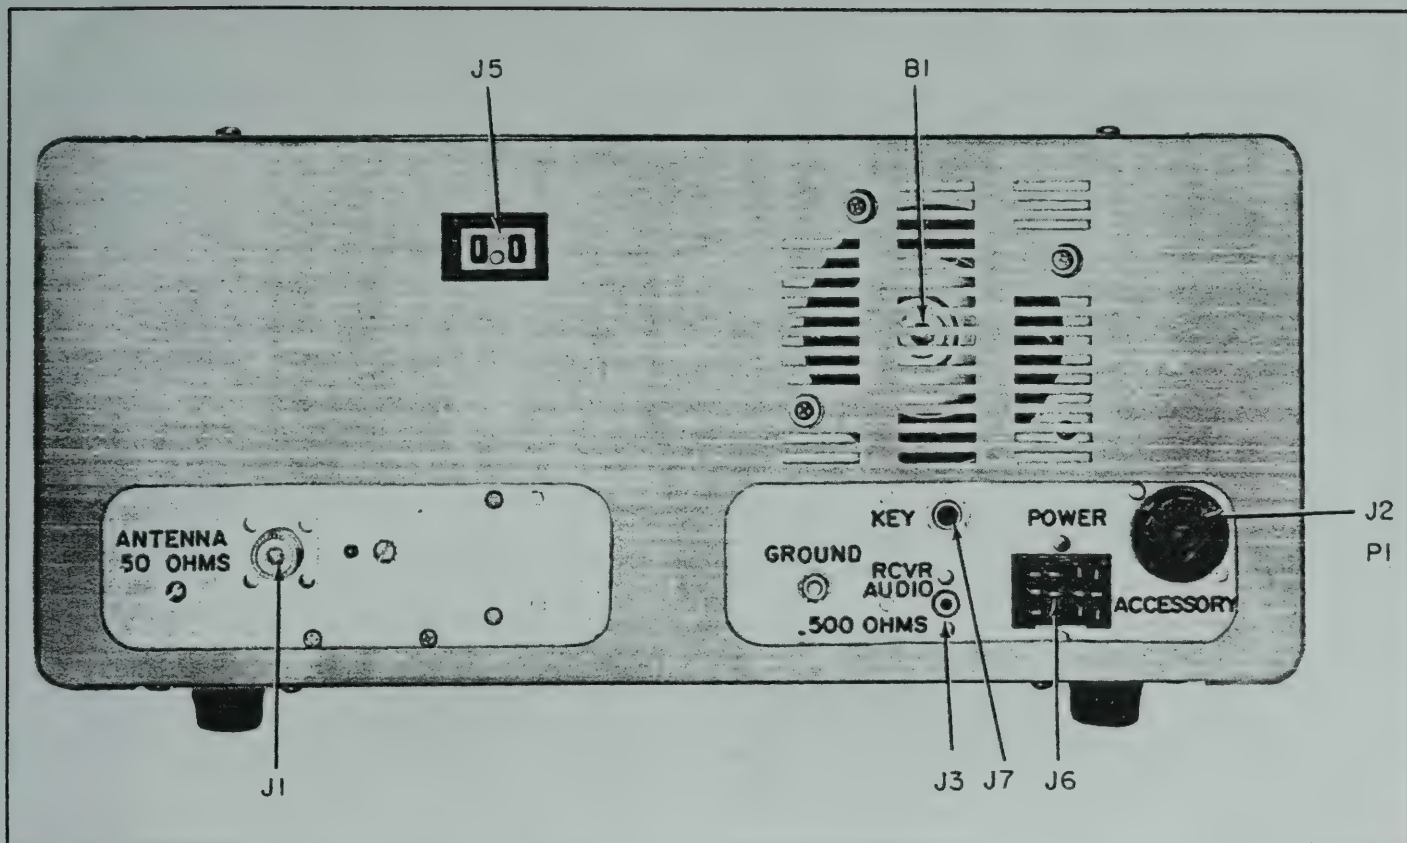

Figure 3. Model SR-2000 Transceiver, Rear View.
C. Interconnect the GROUND studs of the transceiver and power supply with the lugged ground braid supplied. Clamp the lugs of the braid between the flat washers of the ground studs and tighten the stud nuts securely. This braided ground strap acts as a safety bond between the power supply and transceiver units since it backs up the ground wire in the low voltage cable. Reference should be made to figures 3, 4, and 5 when interconnecting the two units.